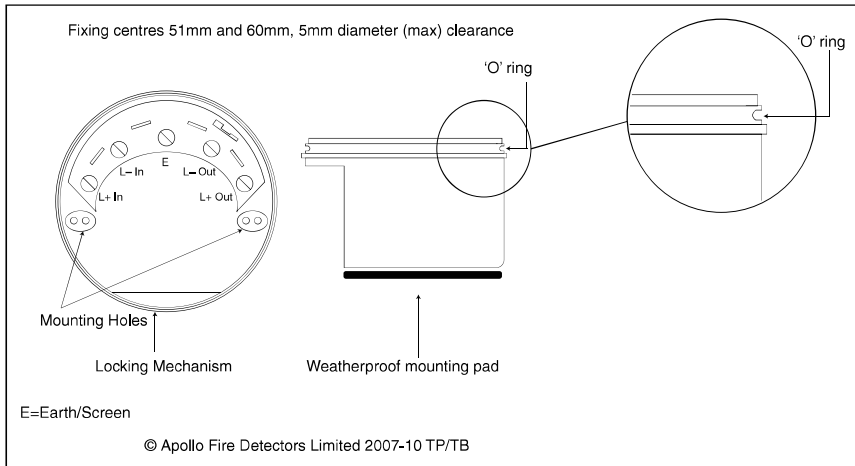

Fig. 4 Base diagram
- Secure the base to the mounting surface with pan-head screws. If IP integrity is required, fit the weatherproof mounting pad between the base and the mounting surface. Fit the 'O' ring to the base (**Fig. 4**). Attach head to base using a lubricant such as silicone grease if required.
- To lock the sounder in the base, snip the break-out on the base rim (location shown in **Fig. 4**). Fit the sounder to the base, using the above steps if IP integrity is required.